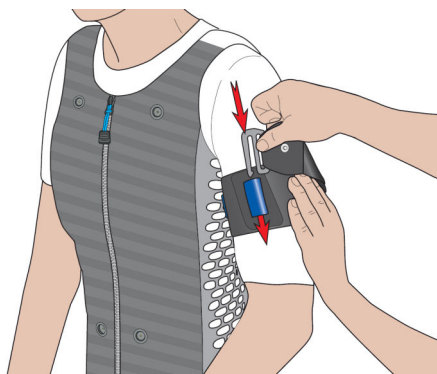

Fig. 40: Closing the i-body® strap flex
8. ➔ Insert the hook into one of the loops (Fig. 40). Adjust the width so that it is comfortable for the athlete and at the same time provides enough contact pressure.